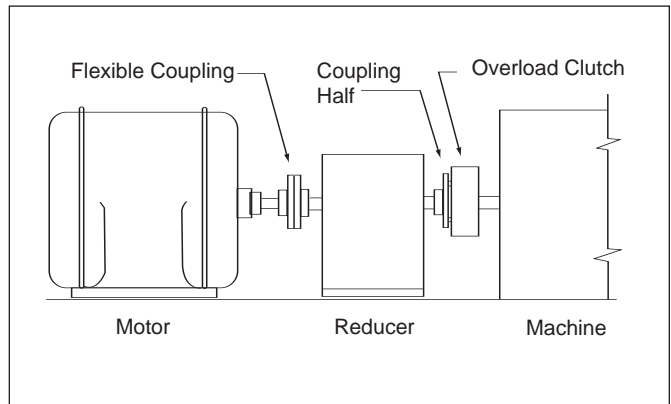

Figure 6
The clutch should always be located as close as possible to the source of an overload condition. Figures 6 through 9 indicate both preferred and not preferred locations for mounting a Series HOR mechanical overload release clutch.
- a. Figure 6 shows the **preferred** location for mounting in a direct drive application. The clutch is mounted on the low speed side of the reducer, and transmits power from its housing, through its rotor to the driven shaft.